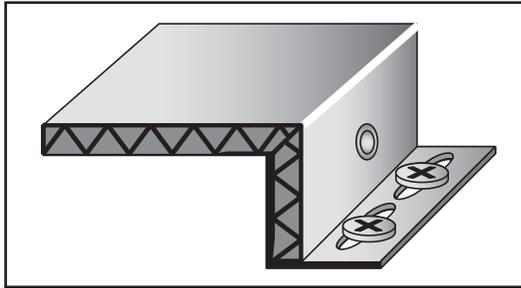

Figure 13
**Figure 13** shows a close-up of a clip fastened to the wall with either pan-head or waffle-head screws.